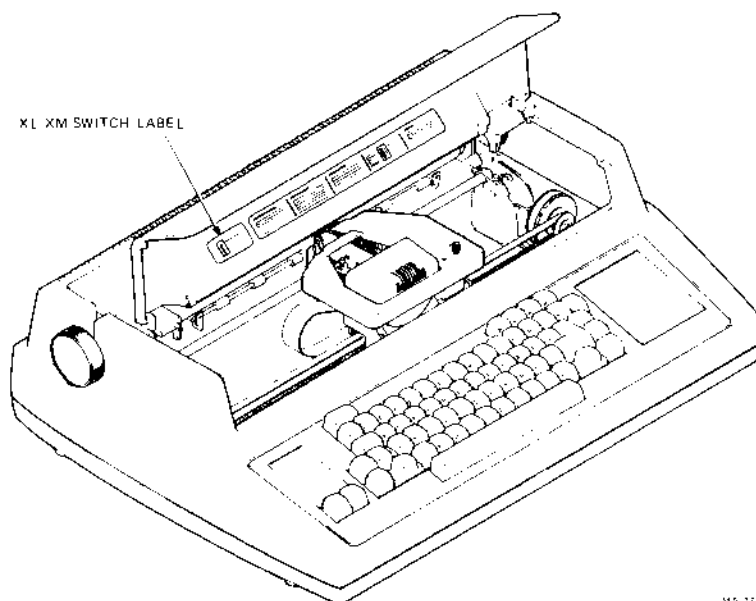

Figure 3-9 LAX34-XL/XM Switch Label Location
24. Remove backing from XL switch label and paste label on inside surface of access cover (Figure 3-9). Reinstall the ribbon cartridge. Close the access cover.